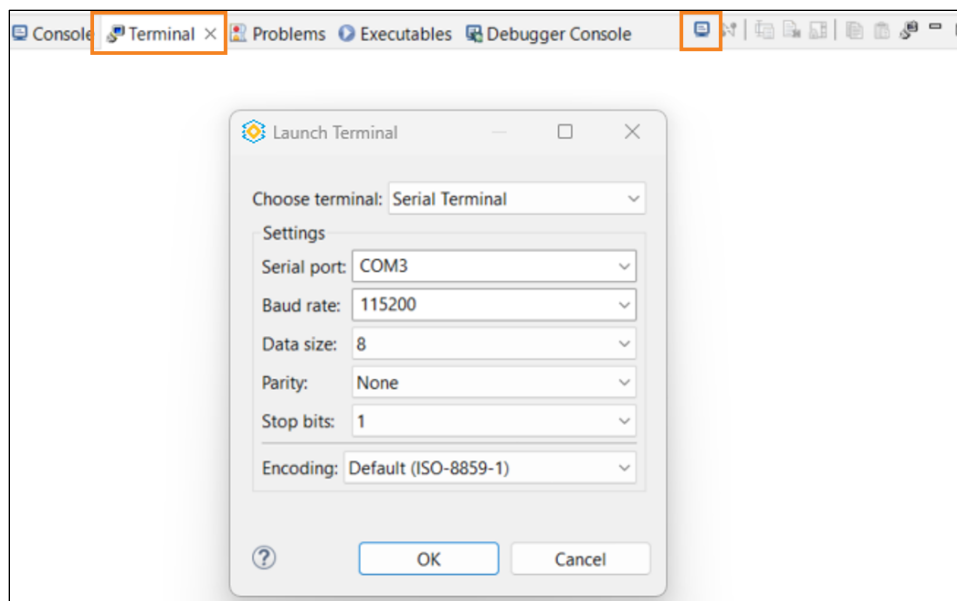

Figure 8.5. Launching Serial Terminal
2. Launch the Serial Terminal as shown in the example in Figure 8.5. Note that the serial port may vary from host to host.